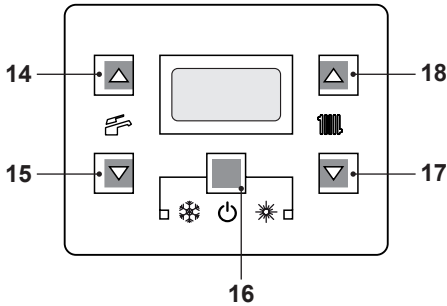

Fig. 7.10
- Press the 16 key for 2 seconds until both  and  symbols appear on the display Fig. 7.10.
- Switch off the boiler by pressing the 16 (Fig. 7.10) key for 2 seconds until the and symbols appear on the LCD display (Fig. 7.9).
- Press the 16 key for 2 seconds until both and symbols appear on the display Fig. 7.10.
Press the reset key on the boiler control panel 16 (Fig. 7.10) to reset its functioning.